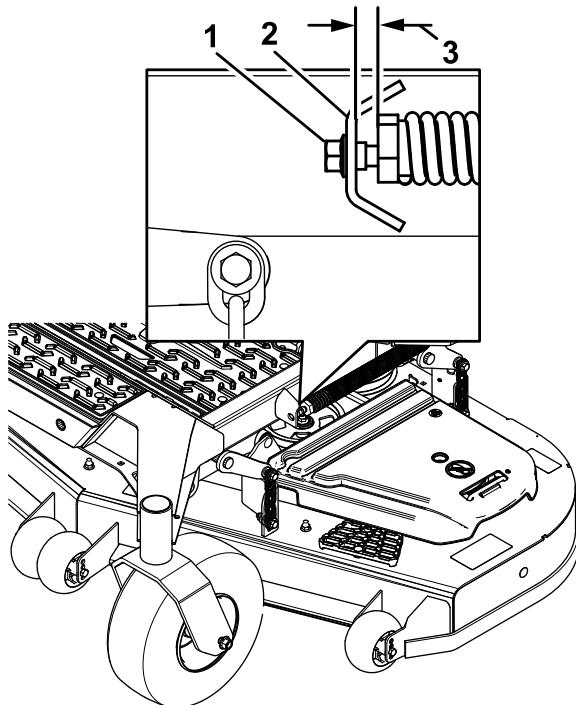

Figure 100
- 10. Slowly loosen the adjusting screw on the lift-assist spring until you can remove the screw (Figure 100).